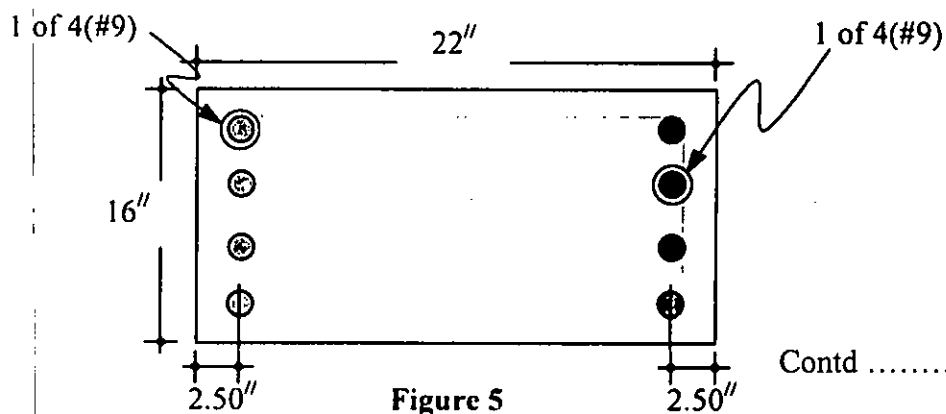

Figure 5
3. (a) Why is comparatively high strength concrete necessary for prestressed concrete? (5)
(b) A 16 × 22 inch column is reinforced with eight No. 9 bars as shown in Figure 5. Construct the nominal strength interaction diagram for the column with five points corresponding to pure axial load, pure bending, balance condition, $\epsilon_s = 0.001$ (tensile) and $\epsilon_s = 0.004$ (tensile). Also, find corresponding ' ϕ ' values for the above points. Assume bending about major/strong axis. Given: $f'_c = 4 \text{ ksi}$, $f_y = 60 \text{ ksi}$ and $E_s = 30000 \text{ ksi}$. (30)